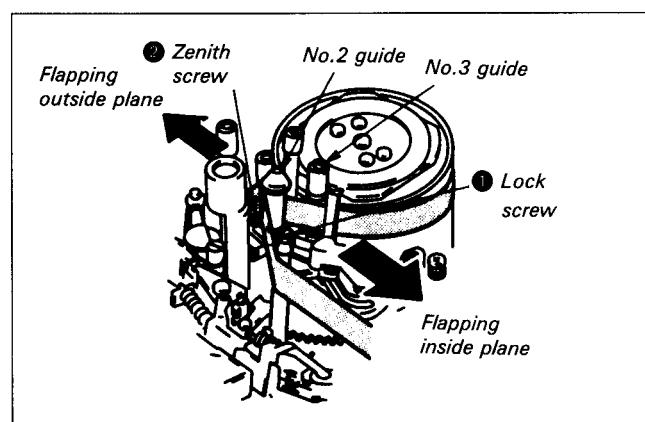

Fig. 7-66.
- 1) Playback the tracking alignment tape (WR5-1C) and loosen No.2 guide lock screw ①, and rotate No.2 and No.3 guides counterclockwise to free tape running on the entrance side. (See Fig. 7-66.)
Adjust the No.2 guide zenith screw ② by turning it counterclockwise 90° at a time. (See Fig. 7-66.)
7) Tighten No.2 lock screw ①. (See Fig. 7-66.)